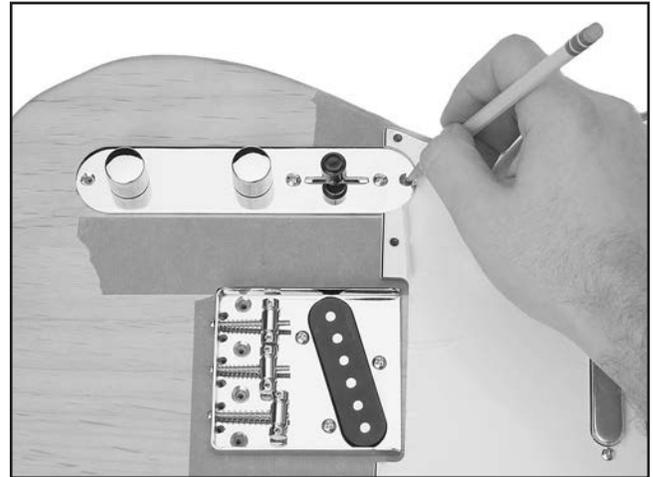

Figure 15. Marking control plate holes.
12. Mark the mounting holes for the control plate (see **Figure 15**), pick guard, and bridge, then remove these components and the neck.